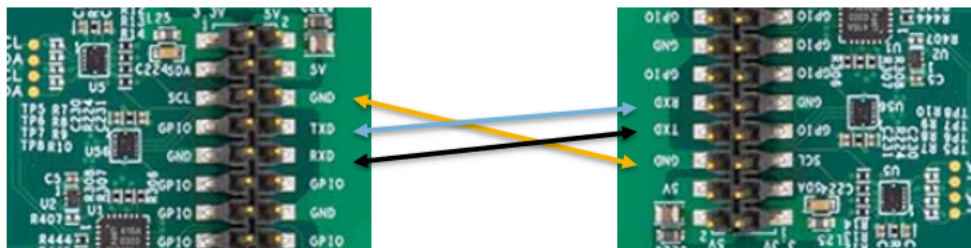

Figure 187. Connection of two i.MX 8MP boards
**Preparation:** Connect the serial ports on the two boards, as shown in Figure 187.